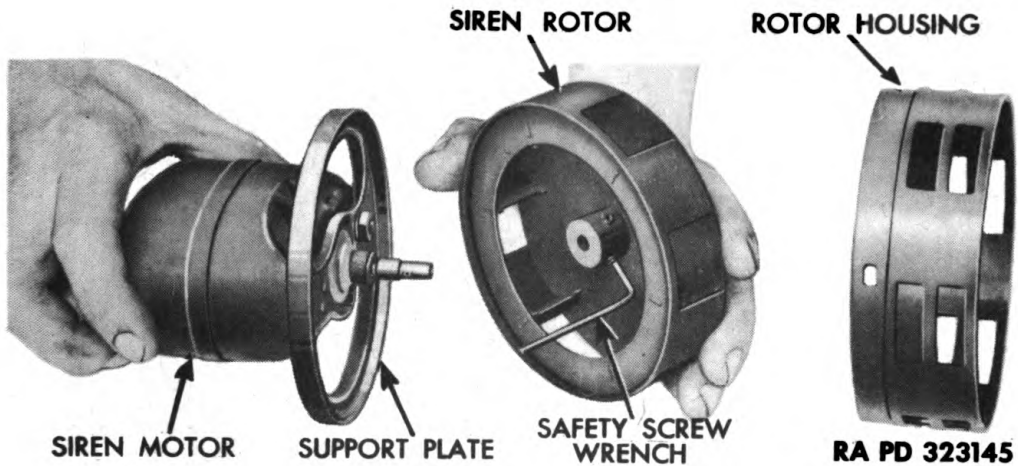

Figure 146 — Removing Siren Rotor
b. **Remove Siren Rotor and Housing (fig. 146).** Pull rotor housing from the motor support plate. Reach through opening provided in motor support plate with $\frac{3}{32}$ -inch hexagon safety screw wrench, and loosen the two safety set screws that attach siren rotor to shaft. Pull siren rotor off shaft.
- c. **Install Siren Rotor and Housing** (fig. 146). Place siren rotor on motor armature shaft making sure to line up set screws over flats on shaft. Tighten both set screws. Place rotor housing over siren rotor, and onto motor support plate; line up screw holes.